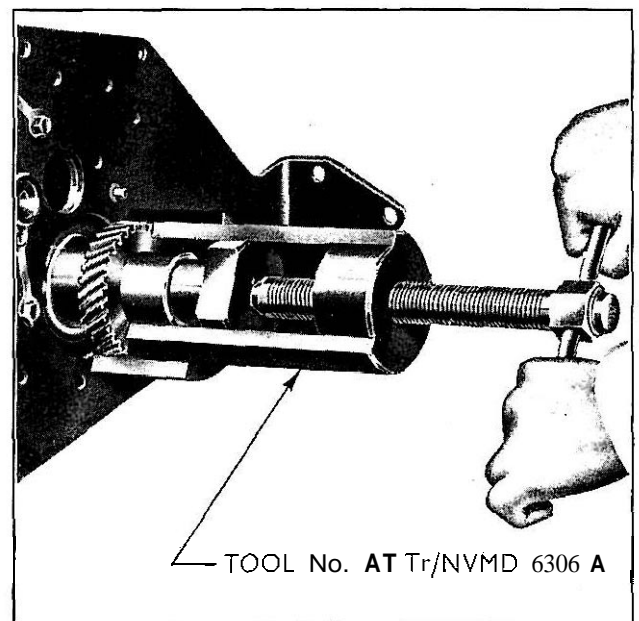

Fig. 69
- 5 Remove the crankshaft gear, using the puller (tool No. ATTr/NVMD 6306-A) with the thrust button inserted in the threaded end of the crankshaft (see Fig. 69). Once the gears have been removed do not turn the engine over otherwise interference may occur between the fuel lift pump eccentric on the camshaft and a big end nut on No. 4 connecting rod.